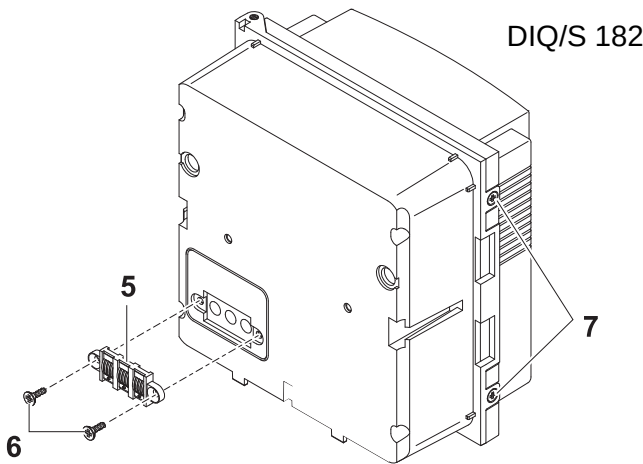

Fig. 3-2 Mounting the contact base (variant 1)
| 4 | Attach the contact base (pos. 5 in Fig. 3-2) on the Universal Transmitter with the two plastic tapping screws (pos. 6). |
| 5 | On the Universal Transmitter, remove the two countersunk screws (pos. 7 in Fig. 3-2) and swing open the lid. |